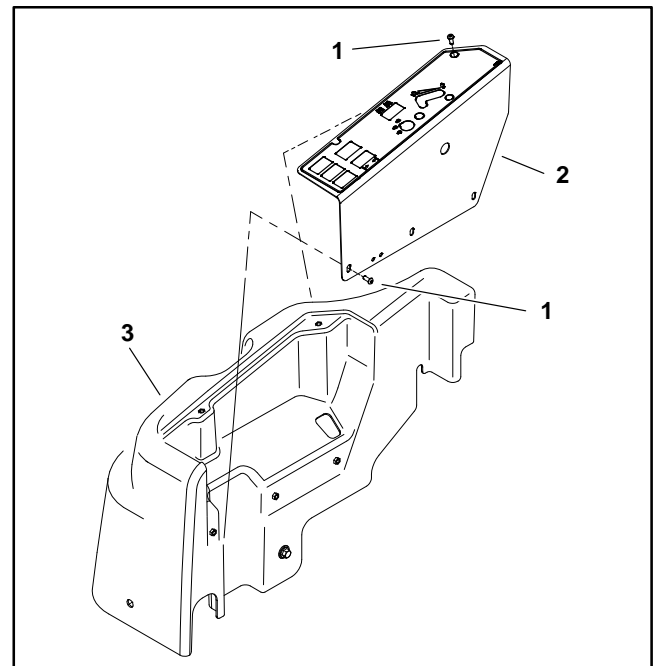

Figure 53
3. Remove five (5) screws that secure control panel to hydraulic tank cover (Fig. 53). Carefully lift and support control panel to allow access to electrical connections.
4. Place control panel on hydraulic tank cover and secure with five (5) screws (Fig. 53).